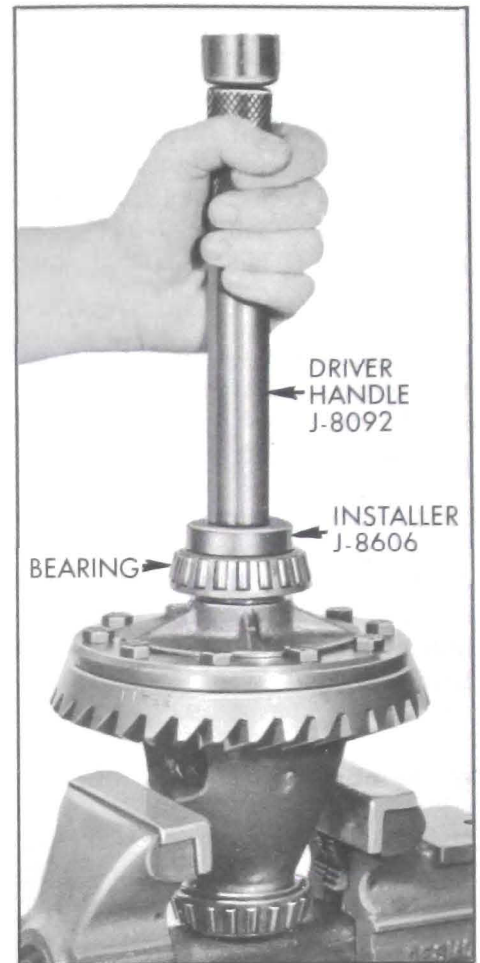

Figure 6-19—Installing Differential Side Bearing
7. If differential side bearings were removed, install new bearings using Installer J-8606 with Driver Handle J-8092. See Figure 6-19.